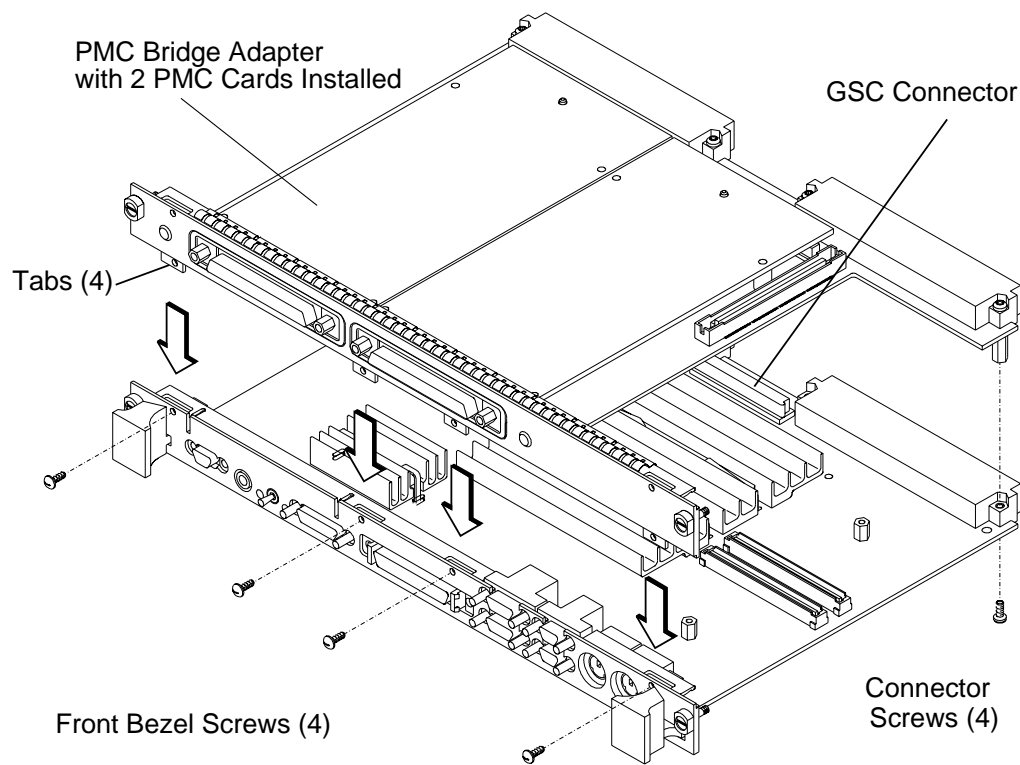
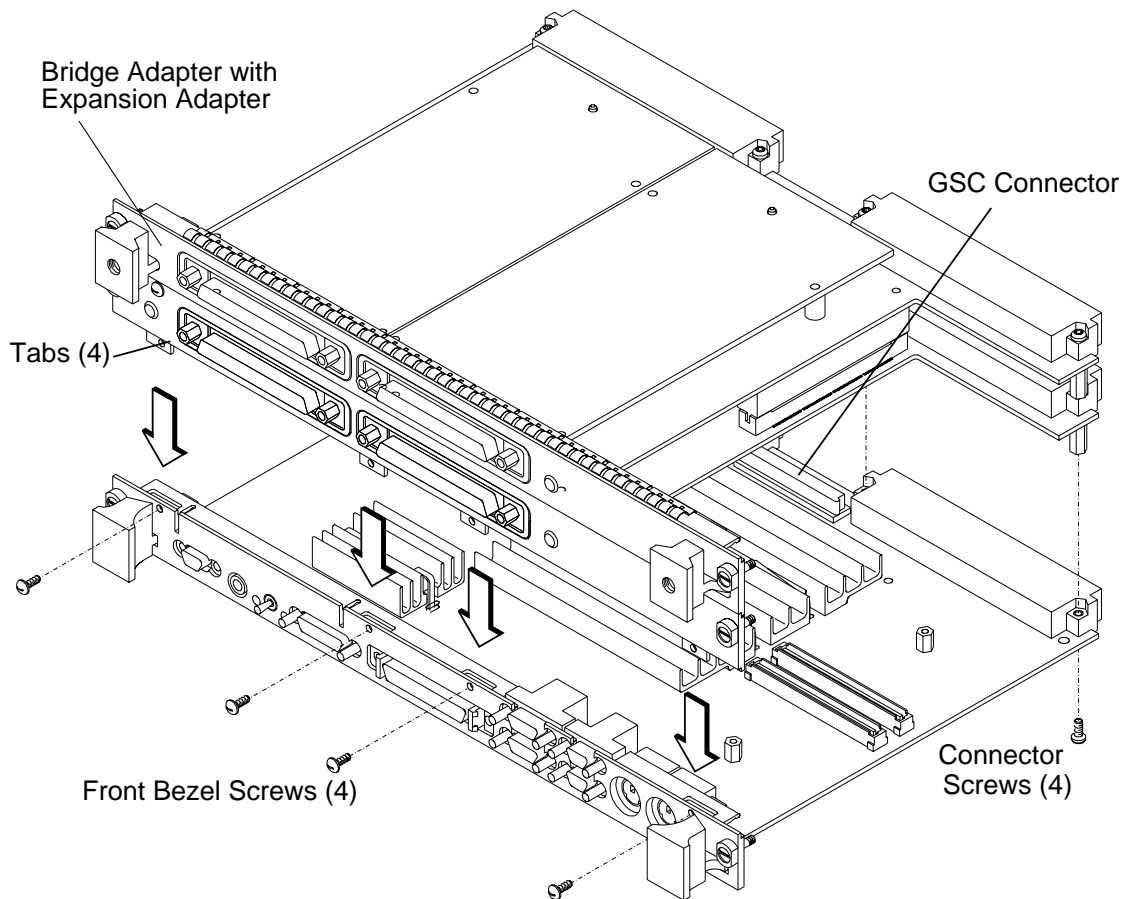

Figure 2-10 **Installing the PMC Bridge Adapter onto the Board Computer**
Figure 2-11 **Installing the Bridge Adapter with the Expansion Adapter onto the Board Computer**
- 7** The bridge adapter should NOT be assembled to the board computer. If it is, remove it by reversing the steps shown in Figure 2-10.
- 11** Install the PMC bridge adapter (as shown in Figure 2-10) or the bridge adapter with expansion adapter (as shown in Figure 2-11) onto the board computer. Align the GSC connector first, then the tabs on the front panel, and push the boards together. There are four screws that secure the front bezel, and four screws that secure the VME connectors.